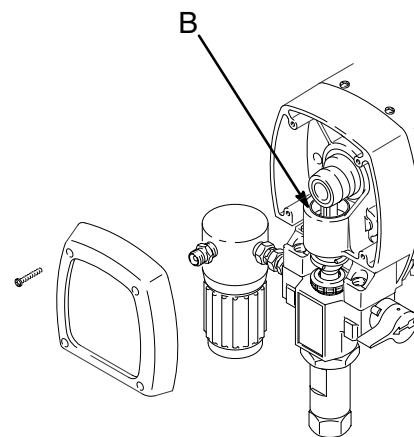

Fig. 9
4. **Lubricate the bearing housing** after every 100 hours of operation. Remove the front cover. Apply several drops of SAE 10 non-detergent oil in the bearing housing cavity (B). See Fig. 9.